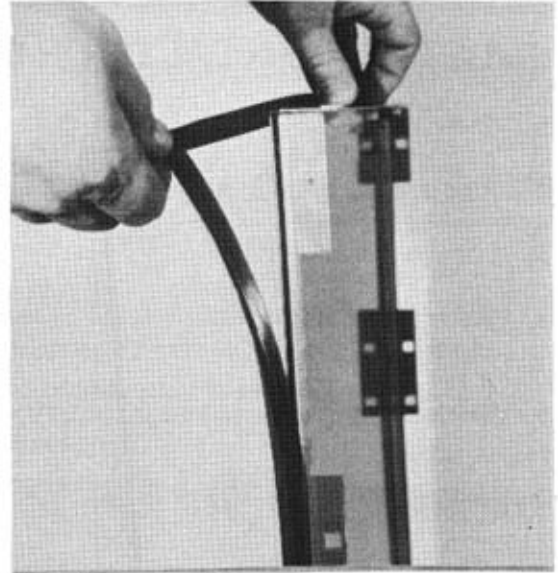

FIG. 20
4. Utilizing care in preventing new gasket from obtaining cuts along edges, insert gasket in mounting groove in inner door panel (See Figure 20).
5. Insert insulation and replace the eight (8) screws (CC16 models), 10 screws (CG15 and CB21 models), or 14 screws (CB53 models) securing inner door panel to outer door panel.